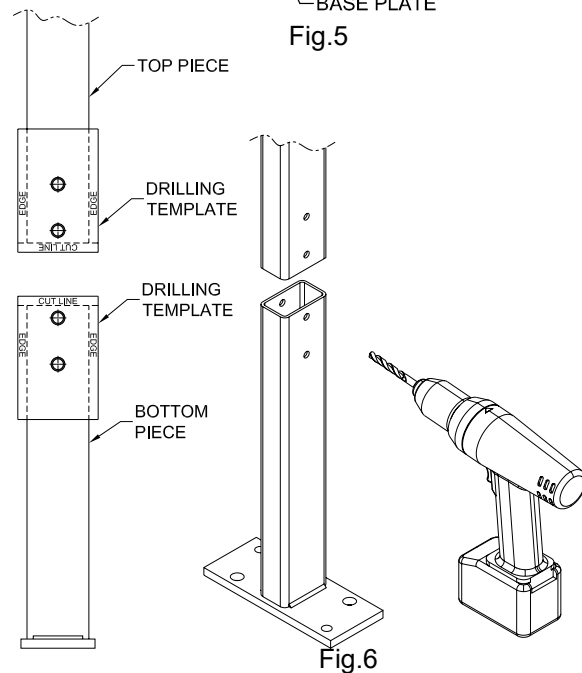

Fig.6
6. Using the provided template, line up the "Cut Line" with the cut edge of the bottom piece, and using a marking punch tool, mark the two "Hole Locations" provided on the template. Using a 1/2" drill bit, drill through both walls of the upright, ensuring the holes remain perpendicular to the surface. Repeat the same process for the top piece. See Fig. 6